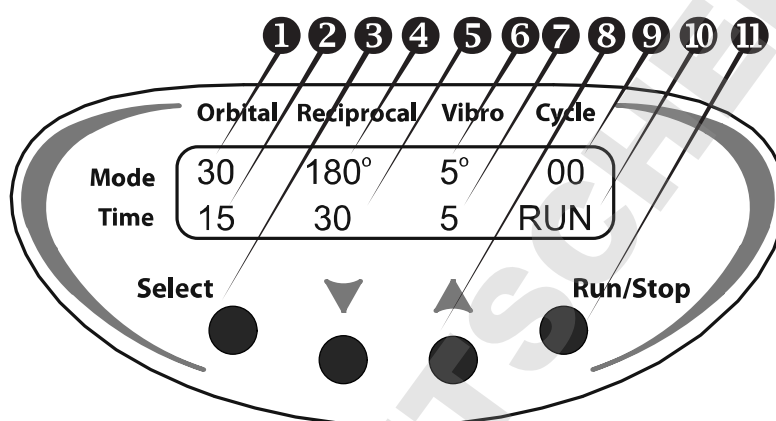

Fig.2. Front panel
- 4.4. Press the **Run/Stop** key (Fig.2/ 11) to start the program.
- 4.5. The platform motion will begin and the corresponding indication (operation mode – RUN (Fig.2/ 10), cycle countdown (Fig.2/ 9) and the changing time values) will be shown on the display.
- 4.9. If the number of cycles is not set (cycle number indicator (Fig.2/ 9) shows zero), pressing
- 4.11.1 Press **Select** key (Fig.2/⑨) to choose the parameter to change (the active parameter is blinking).
- 4.11.2 Use the ▲ and ▼ keys (Fig.2/⑧) to set the necessary value (pressing the key down for more than 2 sec will make the values change quickly).
- 4.11.4 It is necessary to set speed (Fig.2/①), turning angle (Fig.2/④, Fig.2/⑥), time for each motion type (Fig.2/②, Fig.2/⑤, and Fig.2/⑦) and number of cycle repetitions (Fig.2/③).